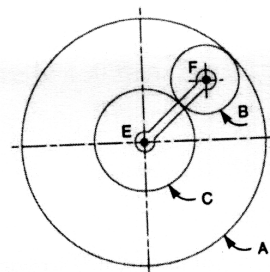

Figure 4b
- b. An epicyclic gear consists of three gears A, B and C as shown in Fig. 4b. The gear A has 72 internal teeth and gear C has 32 external teeth. The gear B meshes with both A and C and is carried on an arm EF which rotates about the centre of A at 18 rpm. If the gear A is fixed, determine the speed of gears B and C.